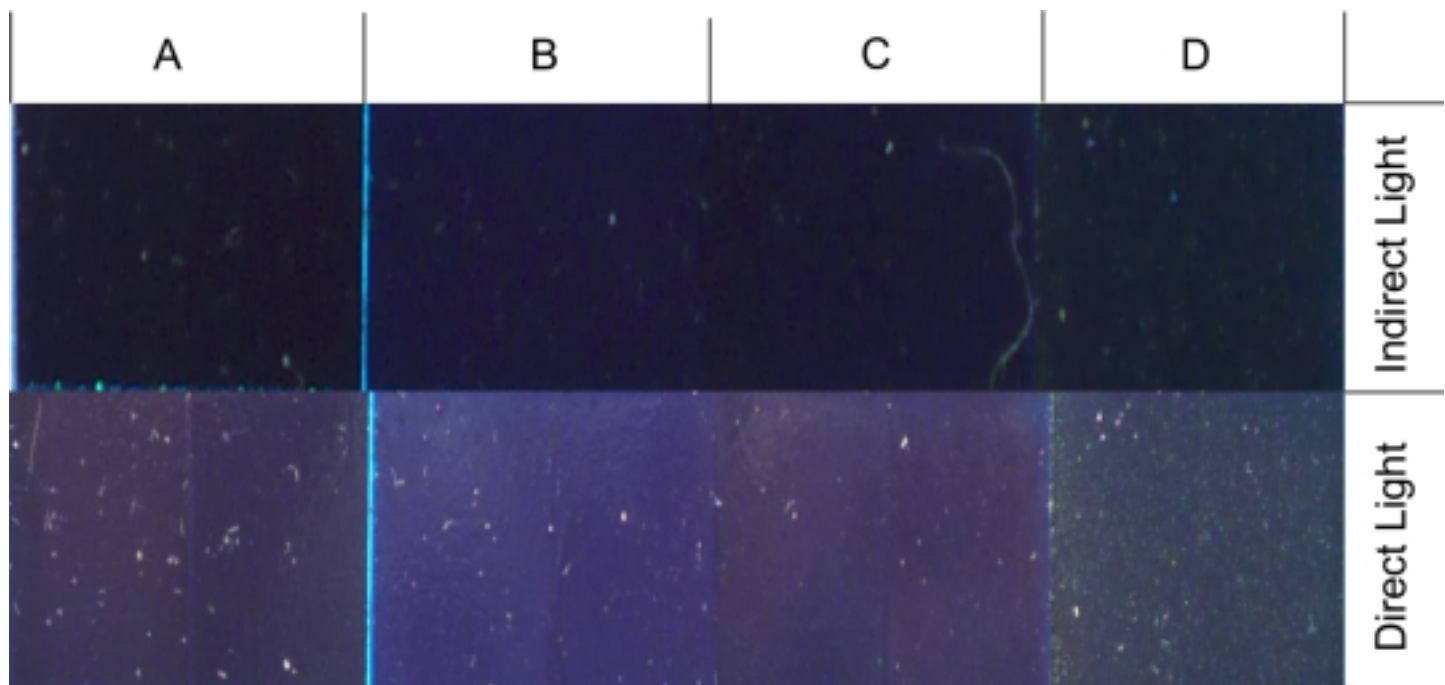

Figure 3. Second experiment
The paint order here is as with figure 3, except that it has the dusting as a mid-layer as in (E). Though the results look promising in the photograph, I was not happy with them in real life (which is where we view our models). I leave further experimentation as an “exercise for the reader” as my texts used to glibly say.